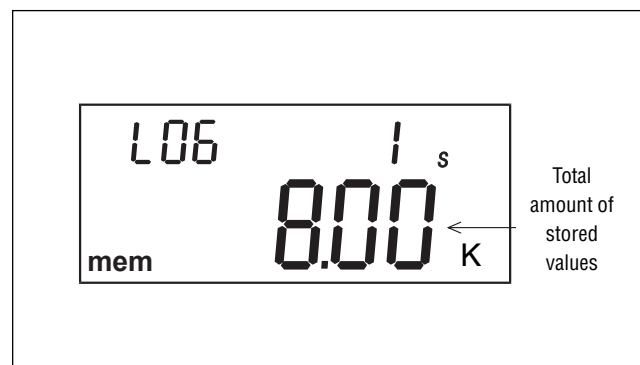

Fig. 8.5
- If the internal memory is full prior to terminating function DATA LOGGER; this function is automatically terminated. The following is displayed (Fig. 8.5). Example for 8000 measurement values at an interval of 1 s.